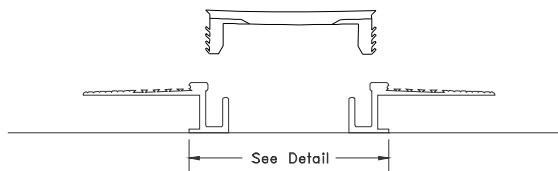

Figure 4
**STEP 3.** Select two base members and the elastomeric seal. Place the base members about the width of the elastomeric seal apart on a flat working surface (see Figure 4). Ensure that the base members' channels are facing one another.